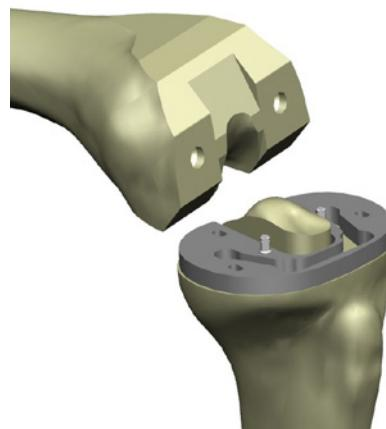

Figure 42
- 2 Using 30mm SPEED PIN®s, fix the tibial punch guide to the prepared tibial plateau (Figure 42).